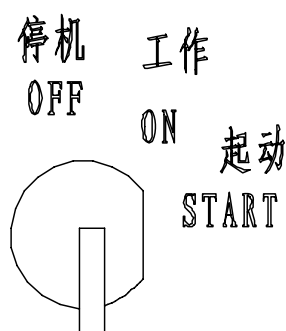

Fig. 5-6
2. See Fig. 5-6, insert key into switch 41 and turn the key to Position I, then the starter is powered on and all indicators of electrical system flash and go out one by one. Turn the key to Position II to start up the engine. NEVER keep the key at Position II for more than 15 seconds to avoid damage of the starter. If start-up fails, release the key and wait for no less than 30 seconds and start it again. Do not remove the hand from the key because the start switch is a type of auto-reset.